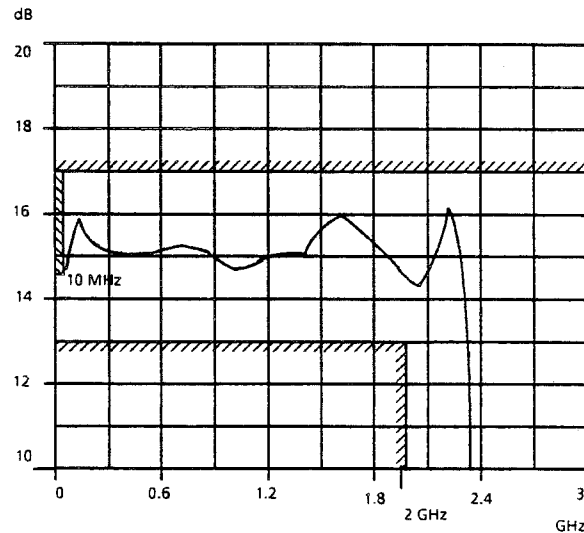

Fig. 5-4 |S21| Typical curve and tolerance field
- Check |S21| and |S11| according to Figs. 5-4 and 5-5.